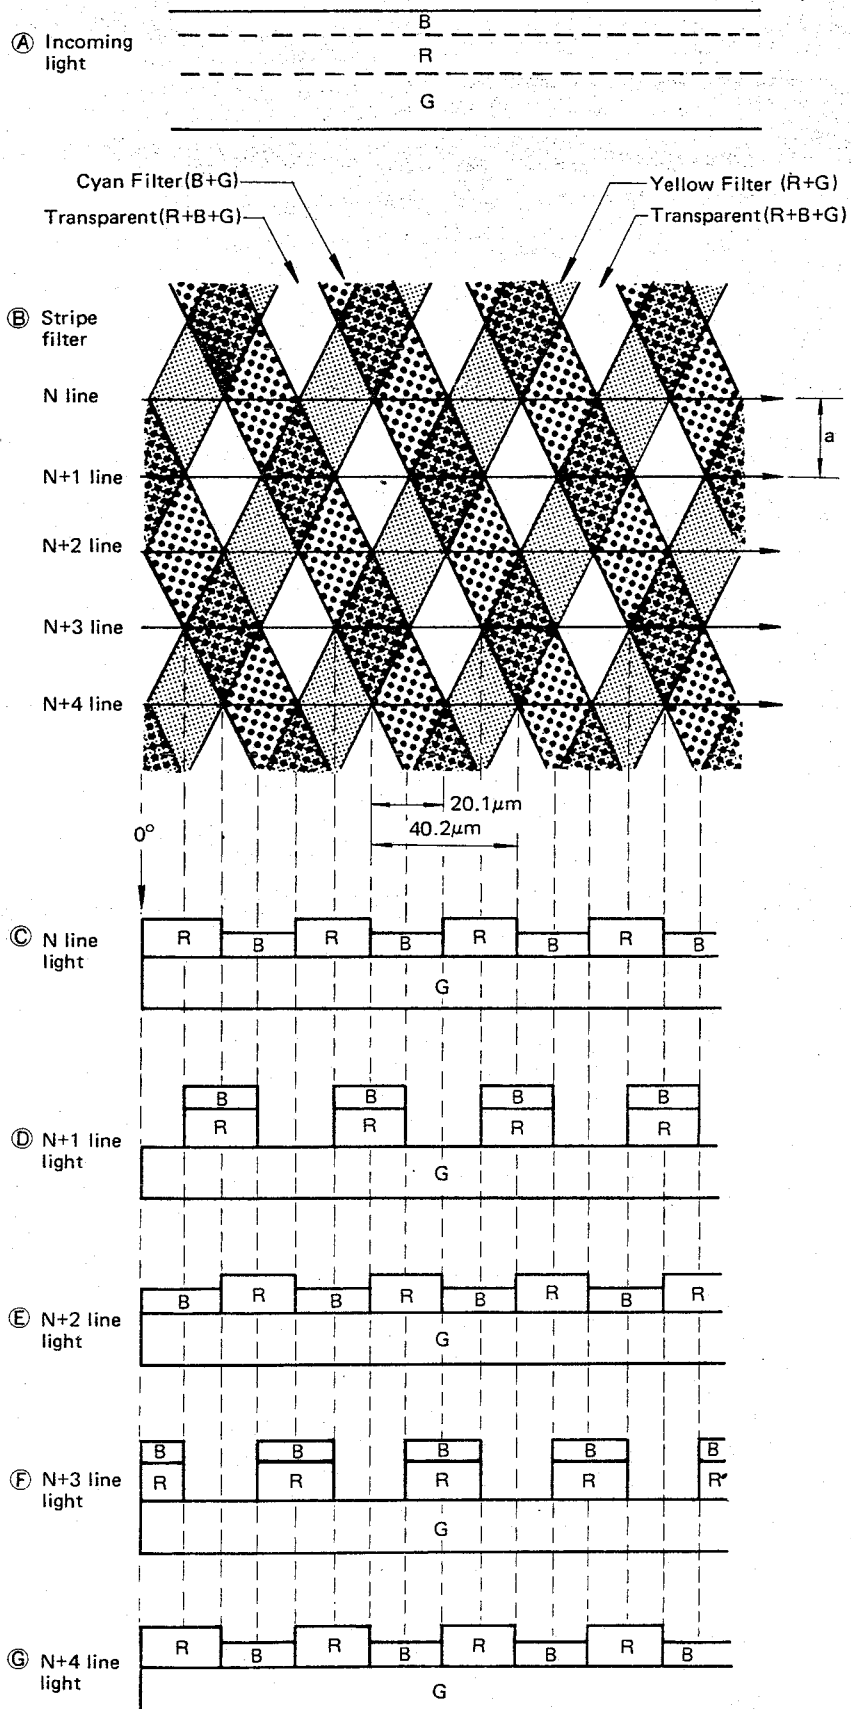

Fig. 10 Light from Stripe Filter
For easy understanding, let's assume that light of uniform level containing green(G), red(R), and blue(B) reaches the vidicon (Fig. 10 Ⓐ), and the crosspoint of cyan and yellow stripe filter is scanned as shown in Fig. 10 Ⓑ.